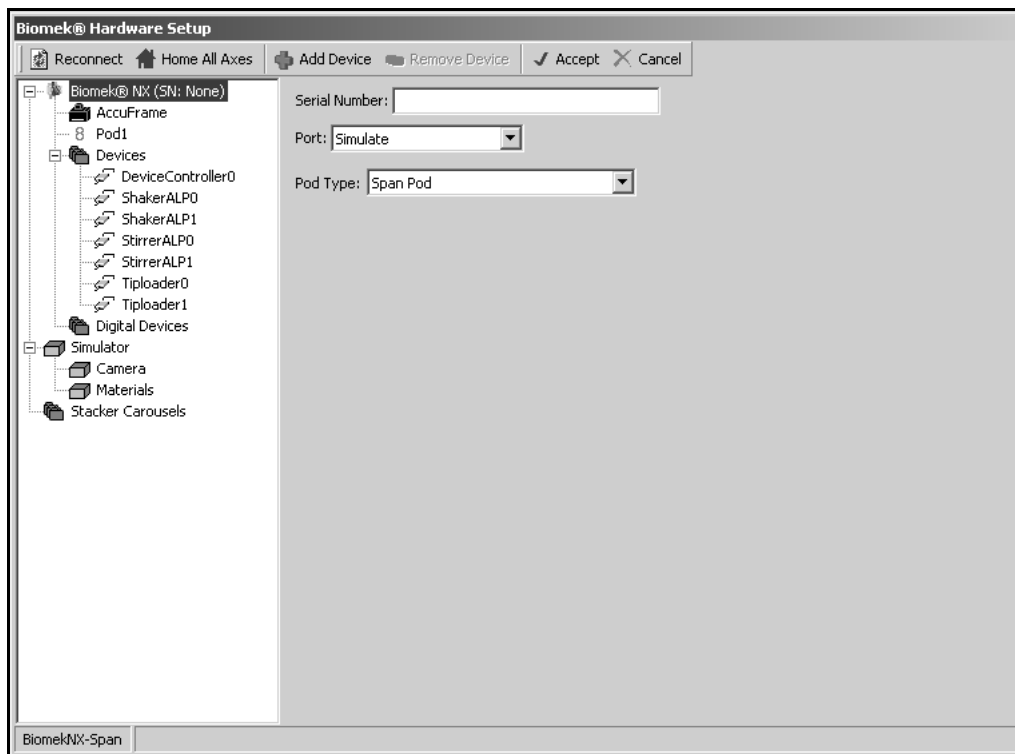

Figure 2-15. Hardware Setup
1. If you do not see the **Simulation Display** button on the toolbar (Figure 2-15), from the **Instrument** menu, choose **Hardware Setup**. Biomek Hardware Setup appears.